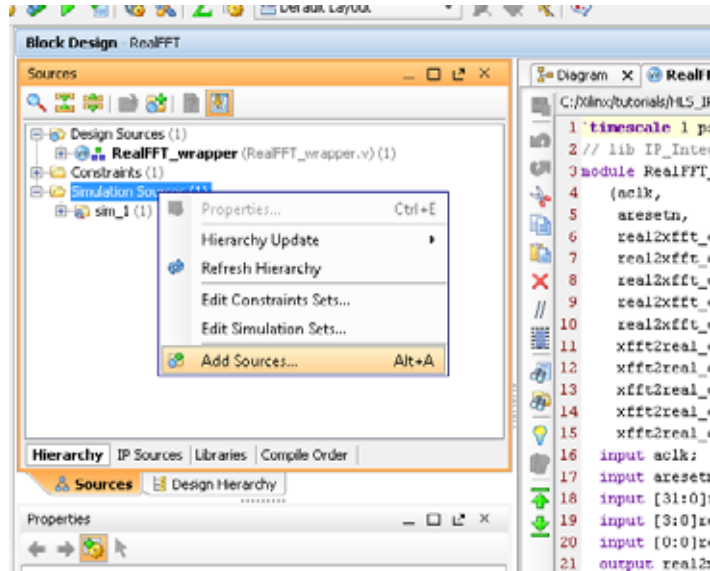

Figure 9-25: Adding Simulation Sources
1. Right-click **Simulation Sources** in the Sources tab of the Project Manager pane (Figure 9-25).